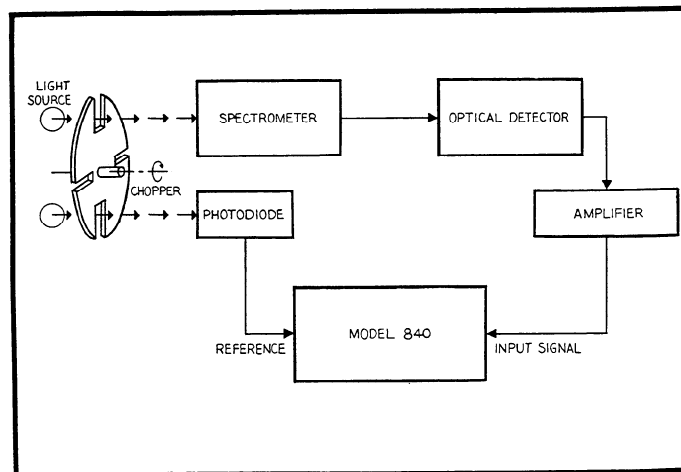

FIGURE 19. Chopped Light Beam Experiment.
b. Current Measurements. A system composed of the Model 427 Current Amplifier and the Model 840 is shown in Figure 19. This system can be used in applications where a feedback current amplifier is required which has very low noise contribution. A typical example is a chopped beam from a photomultiplier tube or other high impedance current source.